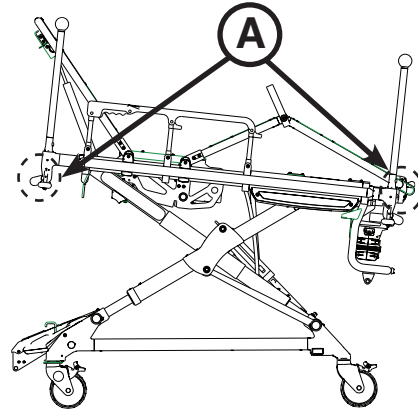

Figure 24.2: Head and Foot Section Retracted
1. Squeeze the red release levers (A) on each side of the frame as you push the head or foot section out of its extended position as shown in Figure 24.2.